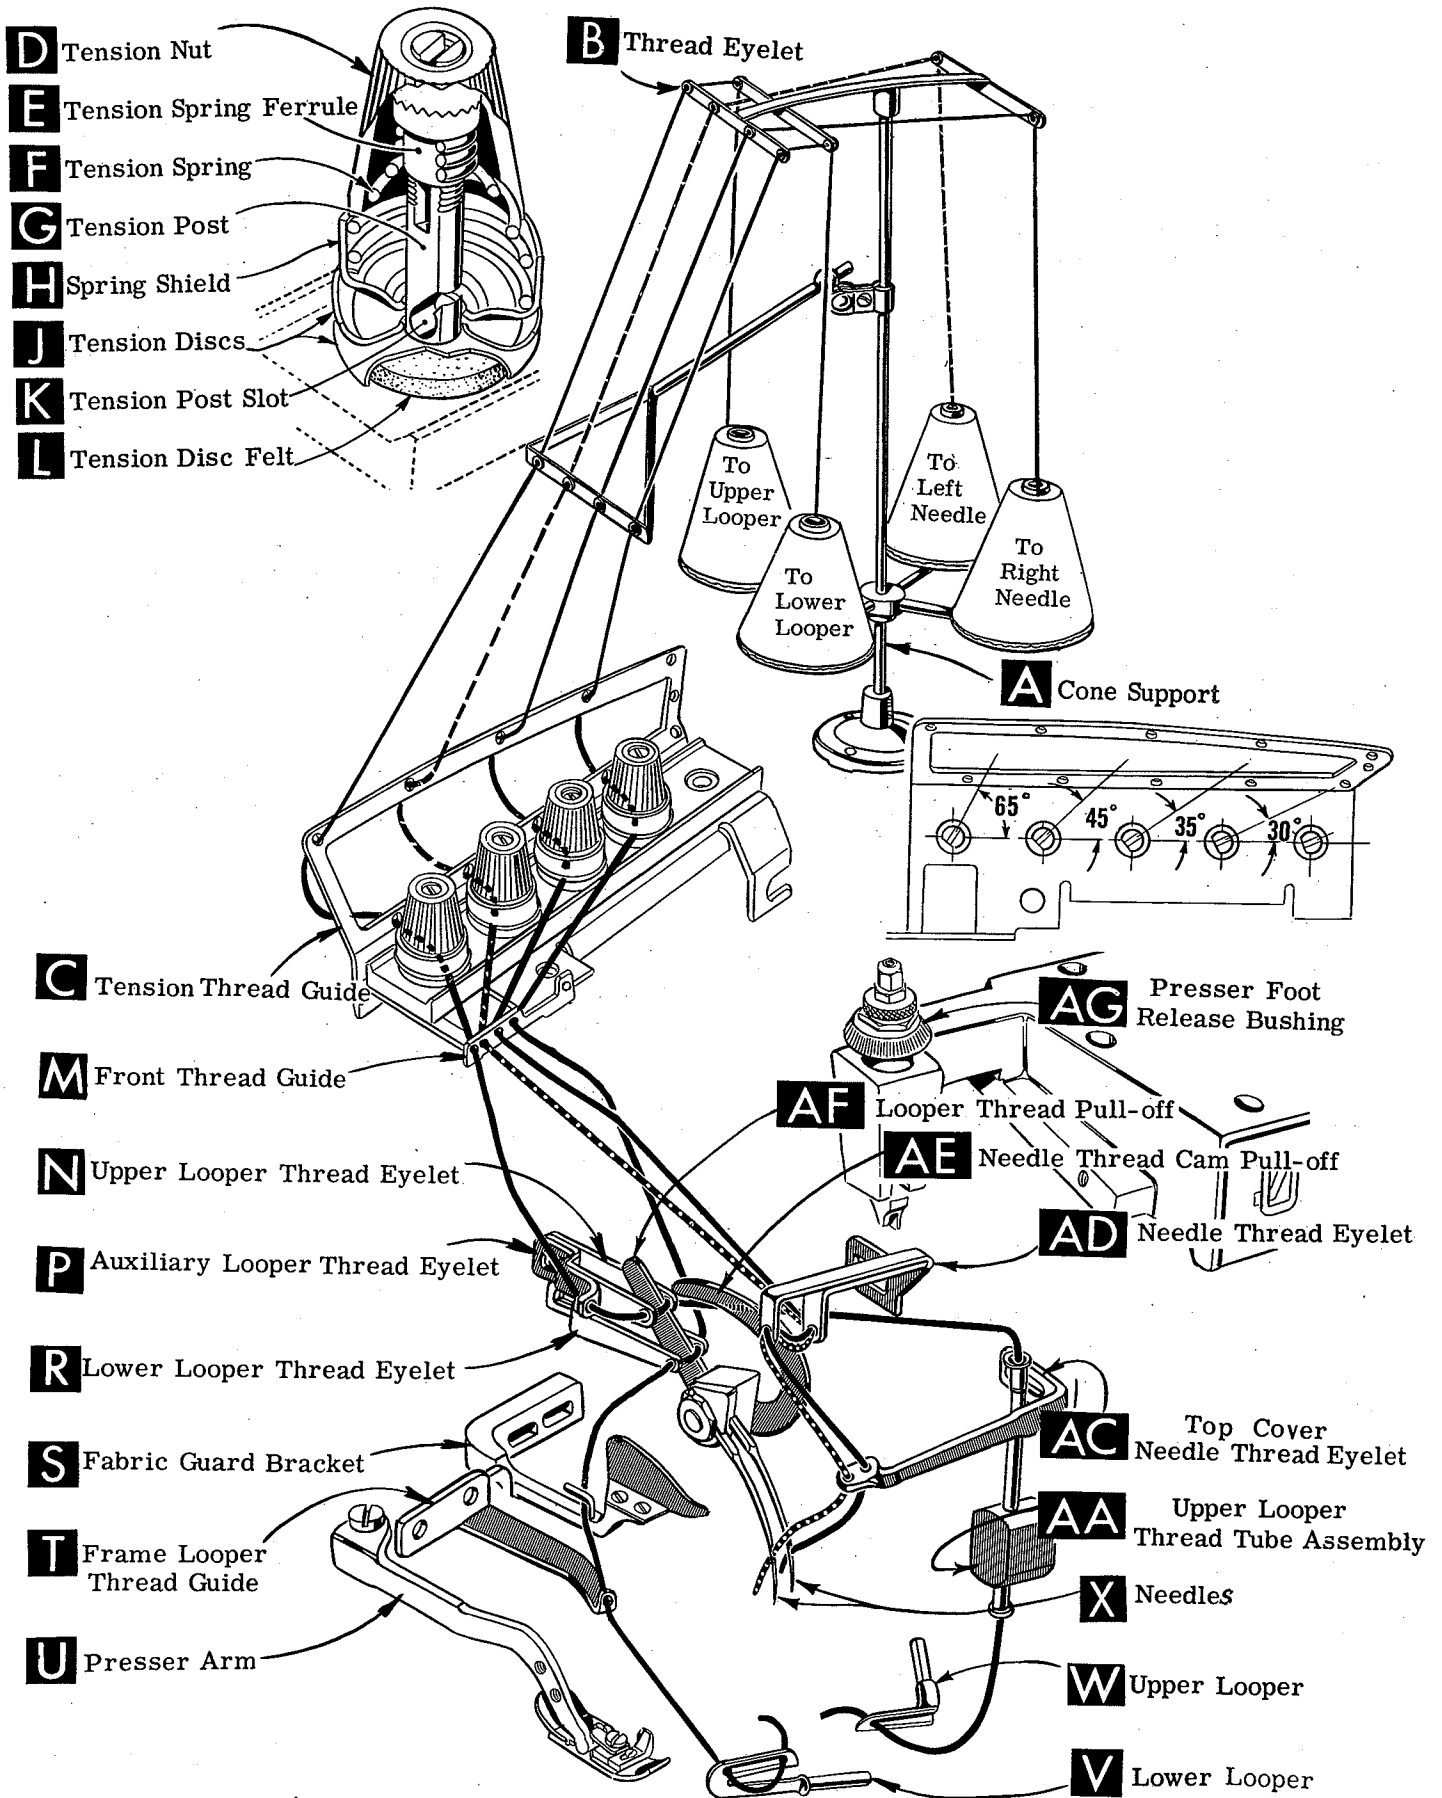

Fig. 1
Release pressure on presser foot by turning presser foot release bushing (AG, Fig. 1) and swing presser arm (U) out of position. Turn handwheel in operating direction until needles are at their lowest point of travel. Using hexagonal socket wrench No. 21388 AU, furnished with machine, loosen needle clamp nut about 1/4 turn. Again turn handwheel until needles are at high position. Withdraw needles.
After thread comes from cones on cone support (A, Fig. 1), the needle threads are threaded through the back bar of the thread eyelet (B), under the middle bar and through the center holes of the front bar. The looper threads come from the cones, through holes of the middle bar from back to front and then through the two outside holes of the front bar. Next it is threaded through the upper holes of tension thread guide (C) front to back and then through the lower holes from back to front. The threads continue between the tension discs (J), through tension post slot (K) in tension post (G) and on through front thread guide (M).
Only parts involved in threading are shown in the threading diagram (Fig. 1). Parts are placed in their relative positions for clarity.
Be sure threads, as they come from the tension thread guide (C) are between tension discs (J) and in diagonal slots (K) in tension posts (G). The tension posts should be positioned so the tension post slot will be at the approximate angle for the different threads as indicated in Fig. 1.
Double end of thread and lead it through both eyes of lower looper thread eyelet (R, Fig. 1) from right to left. NOTE: thread must pass in front of looper thread pull-off (AF). Lead thread behind fabric guard (S) and through eyelet hole of frame looper thread guide (T). Turn handwheel in operating direction until heel of lower looper (V) is all the way to the left; then thread through both eyes from left to right. Left eye of lower looper can be threaded easily if tweezers are in left hand.
The amount of tension on needle and looper threads is regulated by tension nuts (D, Fig. 1). Tension on threads should be only enough to secure proper stitch formation.
Be sure machine is threaded according to threading diagram (Fig. 1). With thread tensions light, set looper thread eyelets (N & R) about horizontal and in the middle of their front to back locations. Operate machine slowly, without presser foot in place, to make sure that chain forms and moves off the tongue freely. Swing presser foot into position, insert material, and sew slowly.
While sewing on material, check needle thread control as follows: Usually all needle thread is drawn on needle down stroke. At top of needle stroke, thread should be just tight enough to feed chain off stitch tongue. Stitch tends to pull down slightly if excessive thread is pulled on the up stroke. With needle at bottom of stroke, position needle thread eyelet (AD, Fig. 1) so that needle cam pull-off (AE) just contacts needle thread.
With material under presser foot, set lower looper thread eyelet (R, Fig. 1) back far enough so thread is a little slack when looper thread pull-off (AF) reaches its most rearward position. Looper thread pull-off (AF) is set about 1/8 inch distance behind needle thread cam pull-off (AE). Frame looper thread guide (T) should be set with its eyelet approximately 1/8 inch to the right of lower looper (V) heel eyelet at the time lower looper is at extreme left end of its travel.